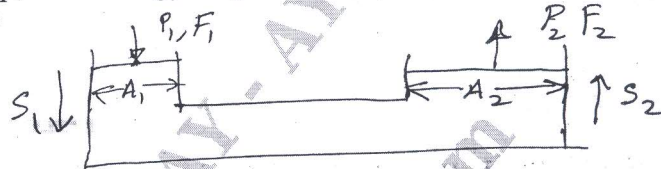

Fig.Q.2(c)
- c. For a simple hydraulic jack as shown in Fig.Q.2(c) has the following data Force (F_1) = 100N, Area (A_1) = 50cm², Area (A_2) = 500cm², Stroke (S_1) = 10cm, find Stroke (S_2). Also find energy input and energy output. (06 Marks)